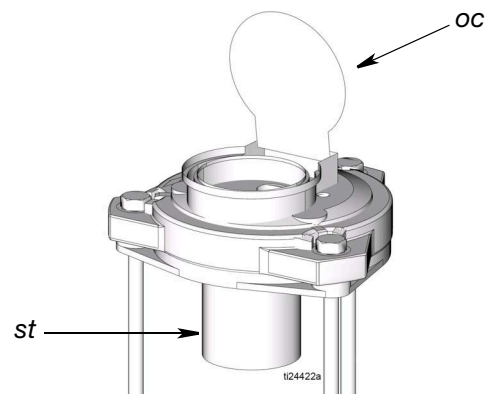

FIG. 4
**NOTE:** A strainer (st) is installed at the oil fill cap (oc) to prevent contamination of the lubricant with foreign materials (FIG. 4).